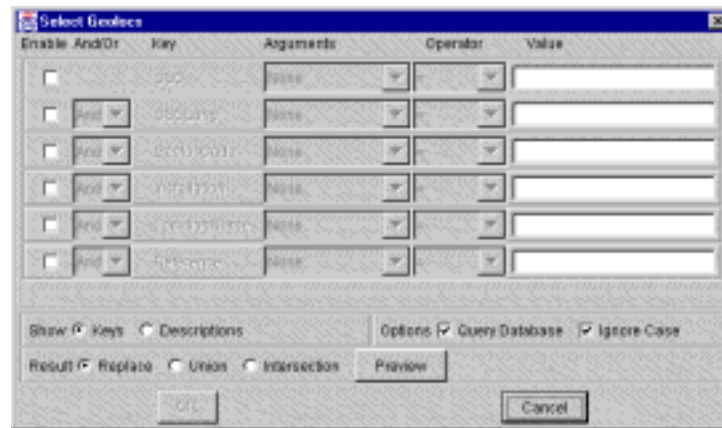

Figure 5.170 Select Geolocs Window
- Click  (Select Geoloc's). The Select Geolocs window opens (Figure 5.170).